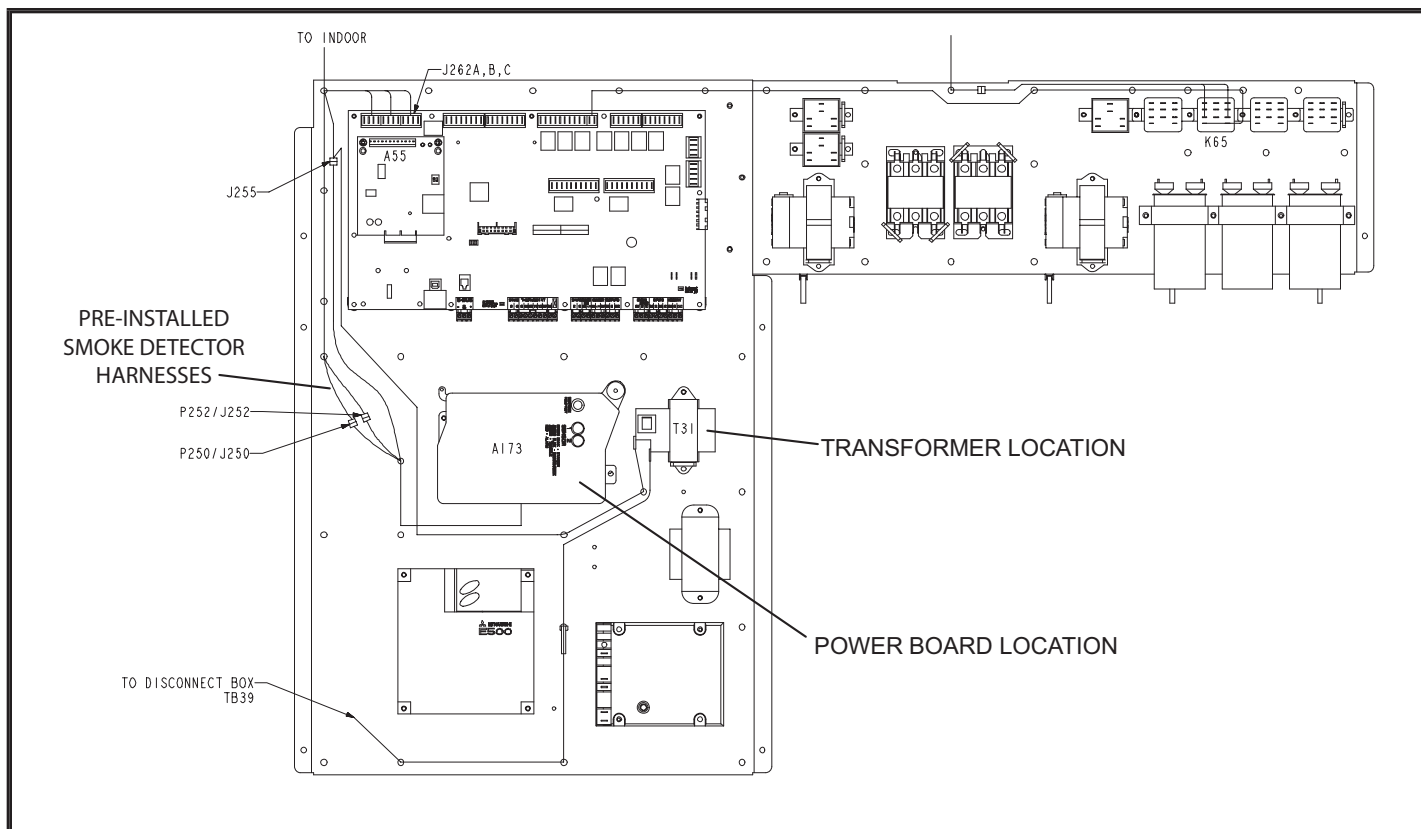
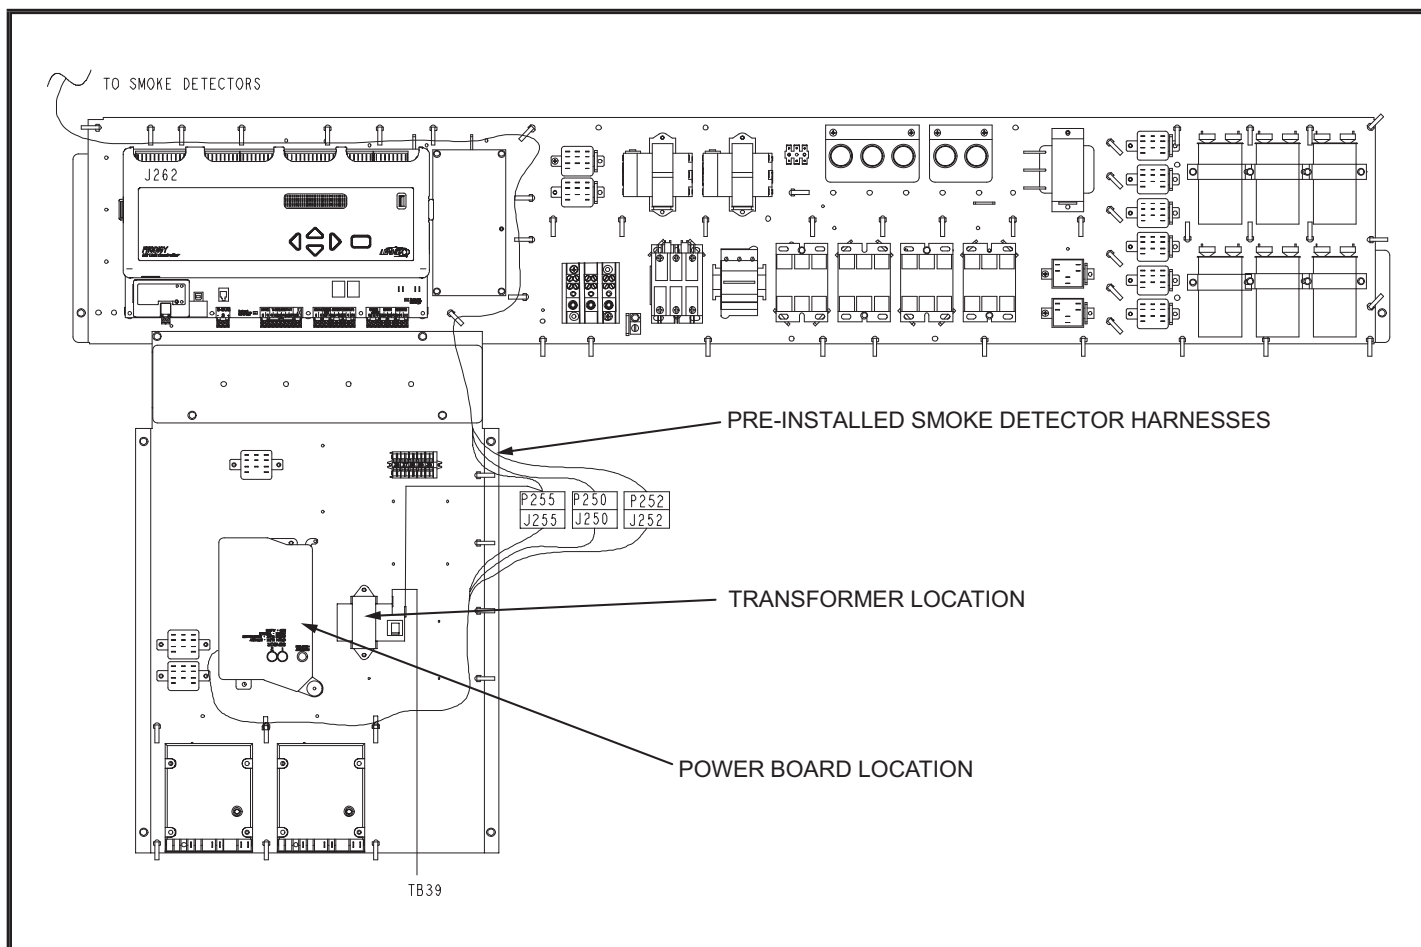
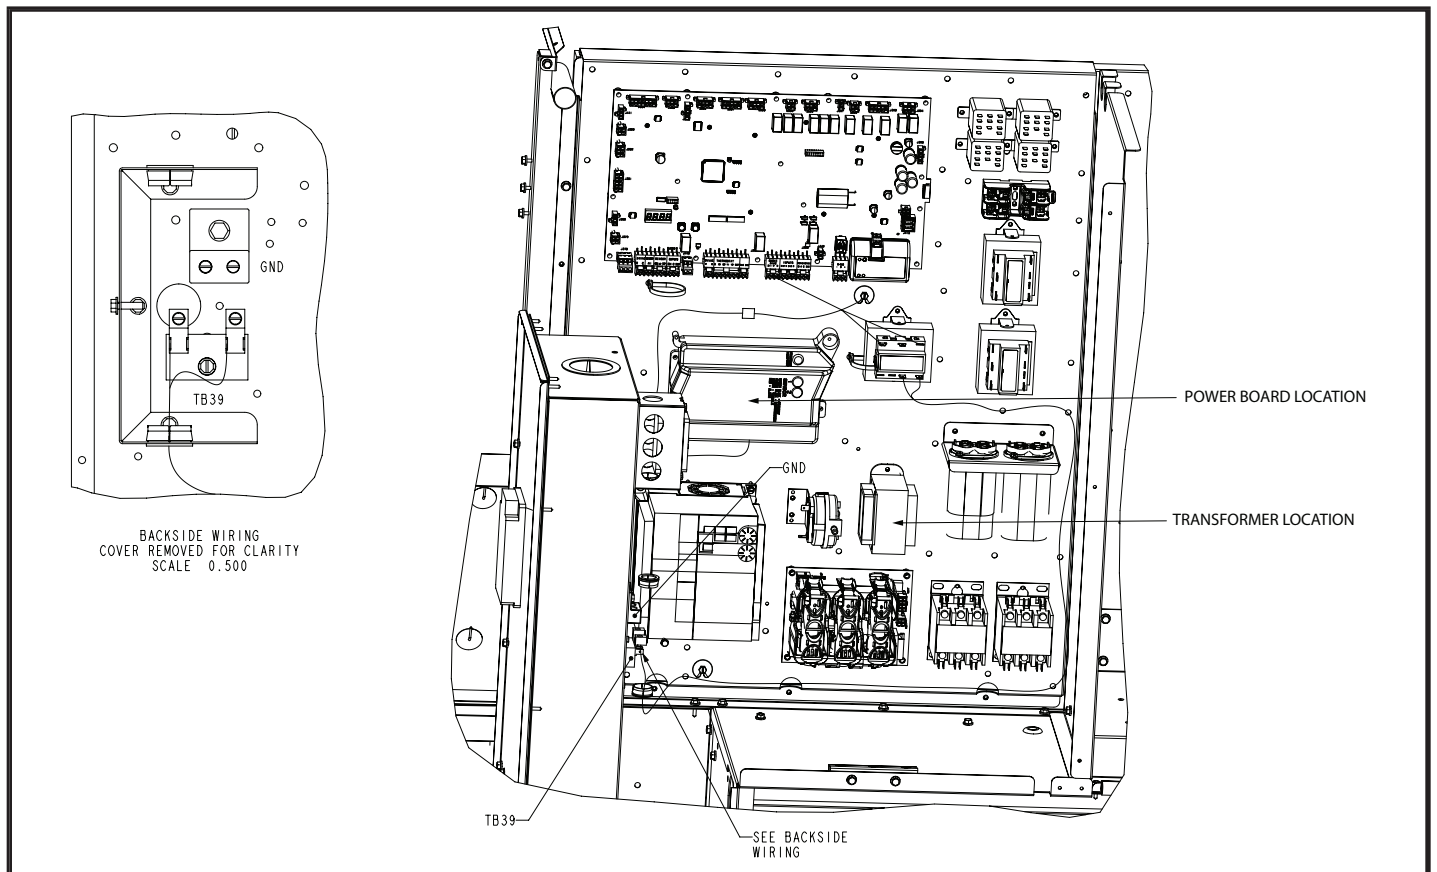

FIGURE 3 Power Board / Transformer Locations On M3 Boards (B-box)
FIGURE 4 Power Board / Transformer Locations On M3 Boards (D-box)
FIGURE 9 Power Board / Transformer Locations On M4 Boards (B-Box)
Use manufacturer's instructions provided with smoke detector to install sensor(s) and power board. Refer to FIGURE 3 for B-box power board location and FIGURE 4 for D-box power board location. Secure control board to control panel with #8-32 screws provided.
Mount transformer to control board panel next to the smoke detector power board. See FIGURE 3 (M3 Board) and FIGURE 9 (M4 Board) for B-Box. See FIGURE 4 (M3 Board) and FIGURE 10 (M4 Board) for D-Box.
- 2 - Route T31 transformer harness from line side of transformer to TB39 located on back of main disconnect box (see FIGURE 5). Connect load side of transformer to smoke detector control board power harness (see FIGURE 3 for B-box and FIGURE 4 for D-box).